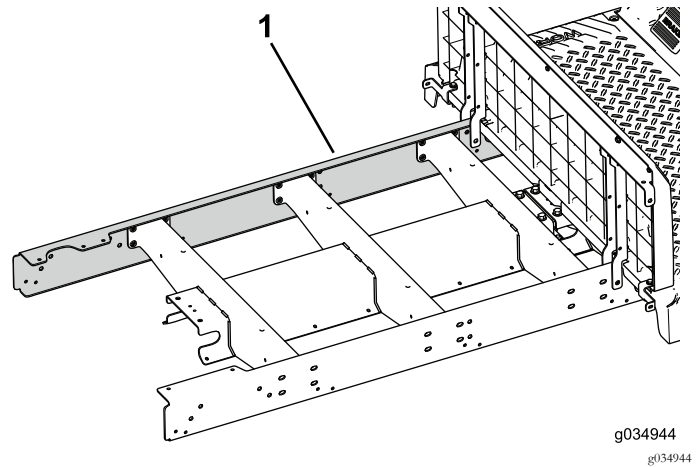

Figure 25
- Loosely install the extension rail to the left side of the machine (Figure 25).